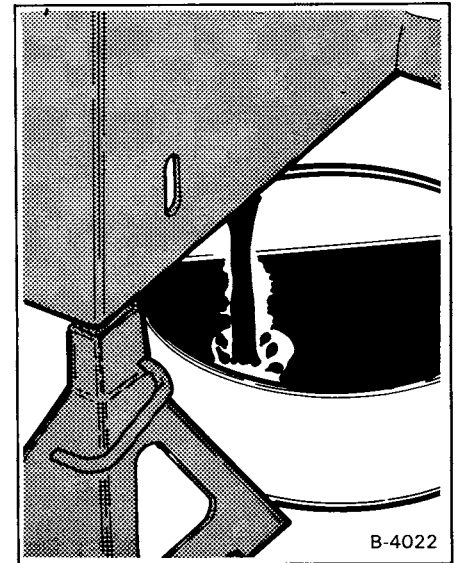

Fig. 75 Removing the Fluid
2. Put a container under the reservoir (Fig. 75) and remove the fluid.